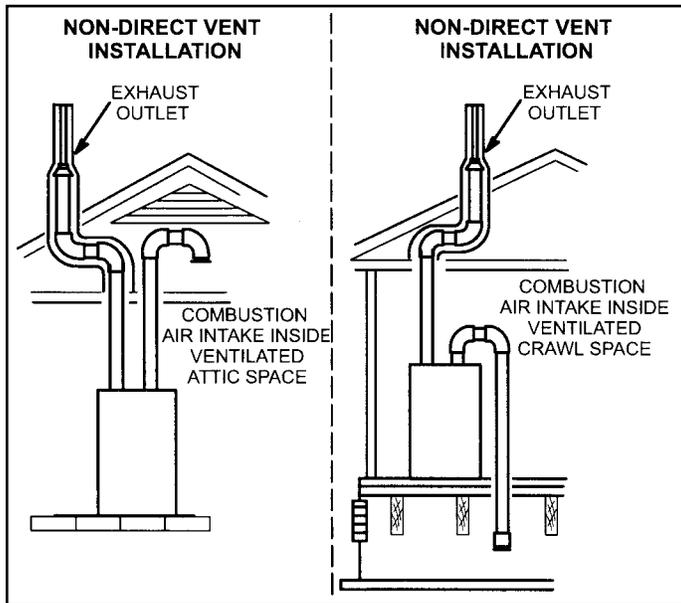

Figure 2.
**NOTE:** In Direct Vent installations, combustion air is taken from outdoors and flue gases are discharged outdoors. In Non-Direct Vent installations, combustion air is taken from indoors or ventilated attic or crawlspace and flue gases are discharged outdoors. See Figure 2 for applications involving roof termination.